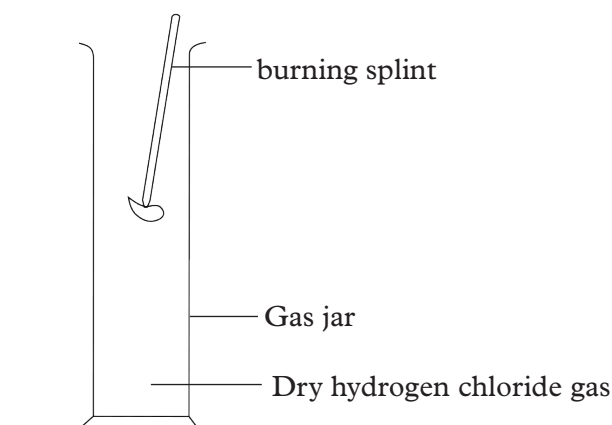

Fig 4.13: Testing for hydrogen chloride using silver nitrate solution.
- e) Lower a burning splint into a gas jar of hydrogen chloride as shown in Fig 4.13.